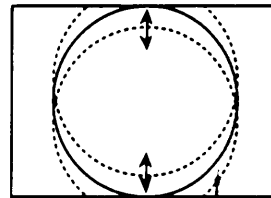

Fig 5.
- d: Adjust the vertical size to obtain overscan. (fig 5).